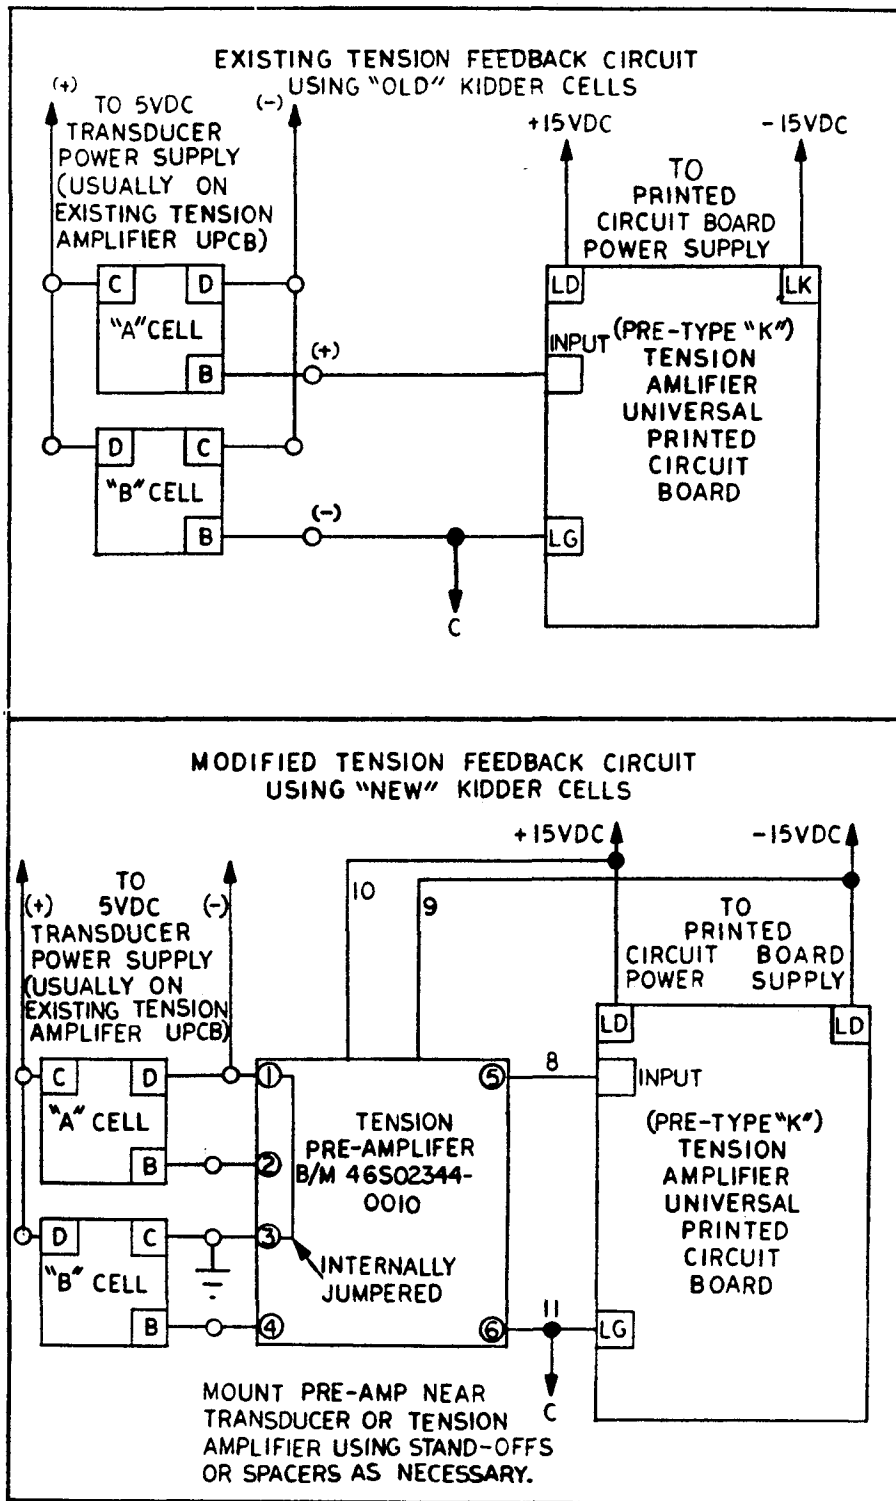

Figure 4. Pre-Type "K" Tension Amplifier Modification
* See Figure 4 for modification of pre-Type "K" circuits.